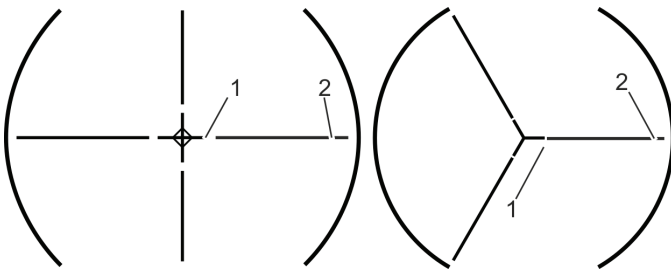

Fig. 47 Wing in starting position (four and three wings)
4. Turn back the knob on the fitting (Fig. 47/2) in order to stop the wing (Fig. 47/1).
- » The wings are in the starting position (Fig. 47).